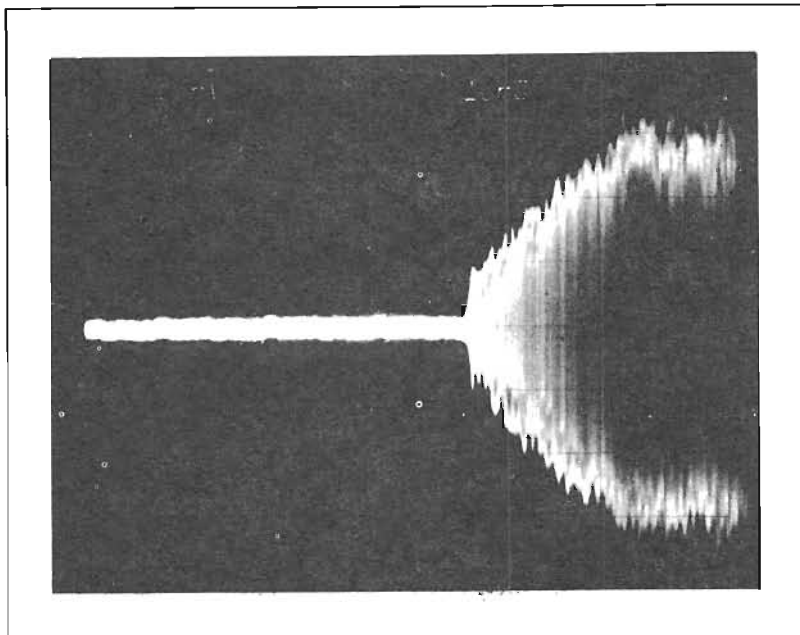

FIGURE 4-31
3. Trigger the head load one-shot by grounding pin 3 of the (SL) PCB assembly. Observe the trace on the oscilloscope. A data burst will appear when the heads are fully loaded. See Figure 4-31.